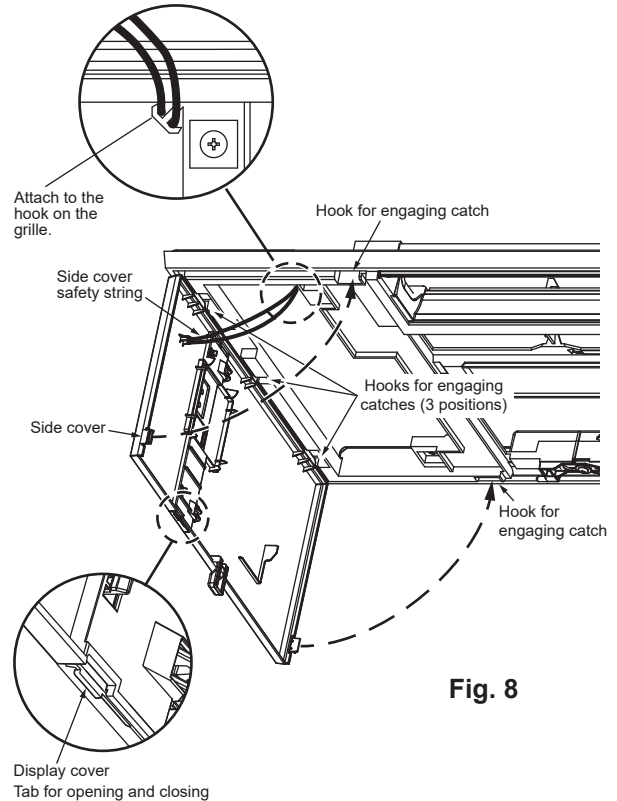

Fig. 8
10. Hook the safety strings of the side covers L/R to the grille and install the side covers. (Fig. 8)
- Make sure that the catches of the side covers L/R are engaged securely. (Fig. 8)